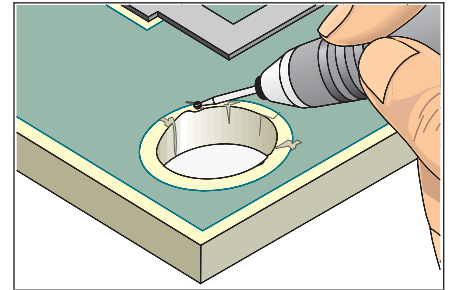

Figure 1 Mill away damaged material.
2. Mill away the damaged base material using the hand held drill and ball mill. All damaged base board material and solder resist must be removed. No fibers of laminate material should be exposed at the surface perimeter of the hole. (See Figure 1.)